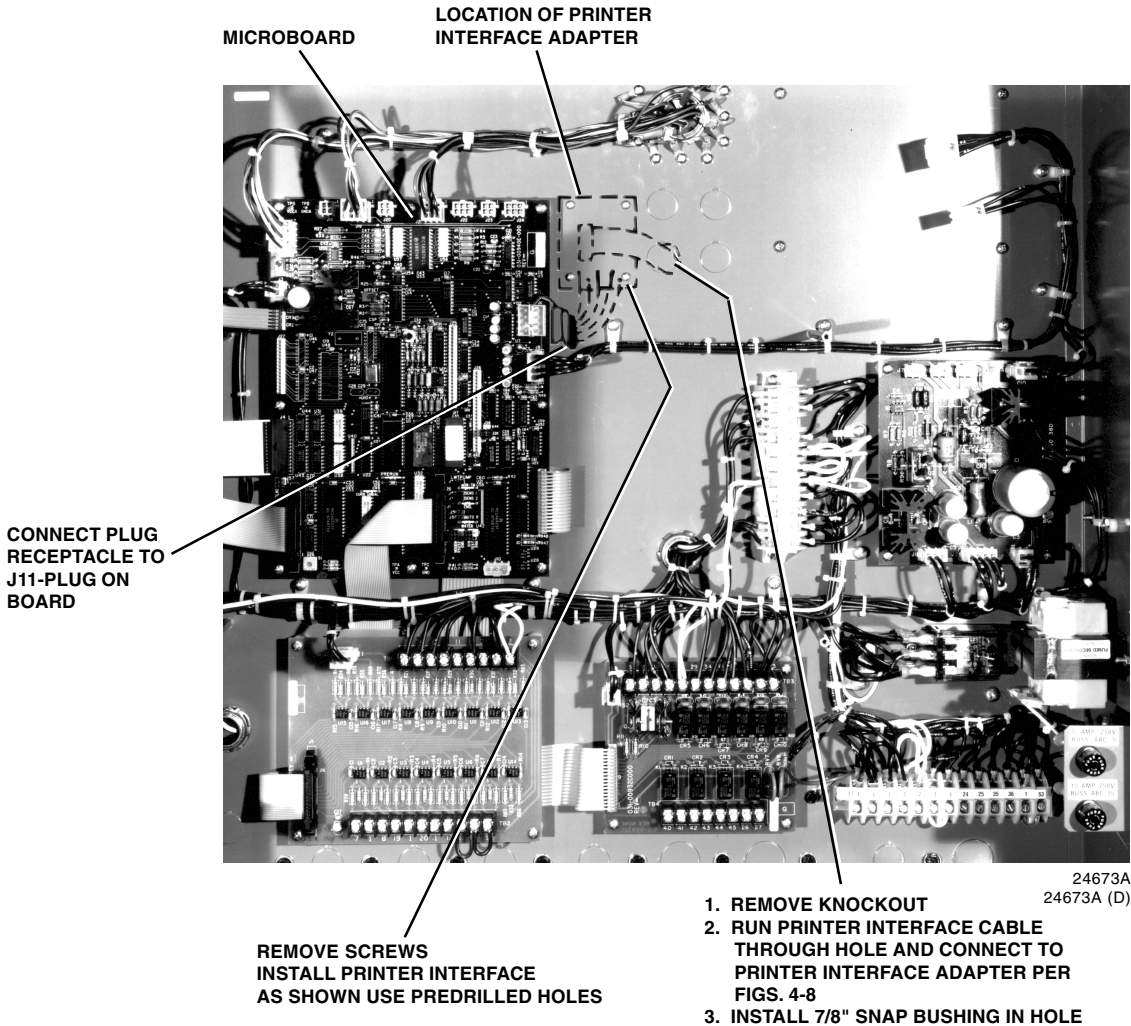

FIG. 2 – PRINTER INTERFACE ADAPTER INSTALLATION INTO MICROCOMPUTER CONTROL CENTER (MICROBOARD 031-00940-000 OR 031-00940-001 ONLY)
1. Order printer interface adapter (031-00910-000) (Fig. 1) from YORK Parts Distribution Center and install in MicroComputer Control Center per Fig. 2.